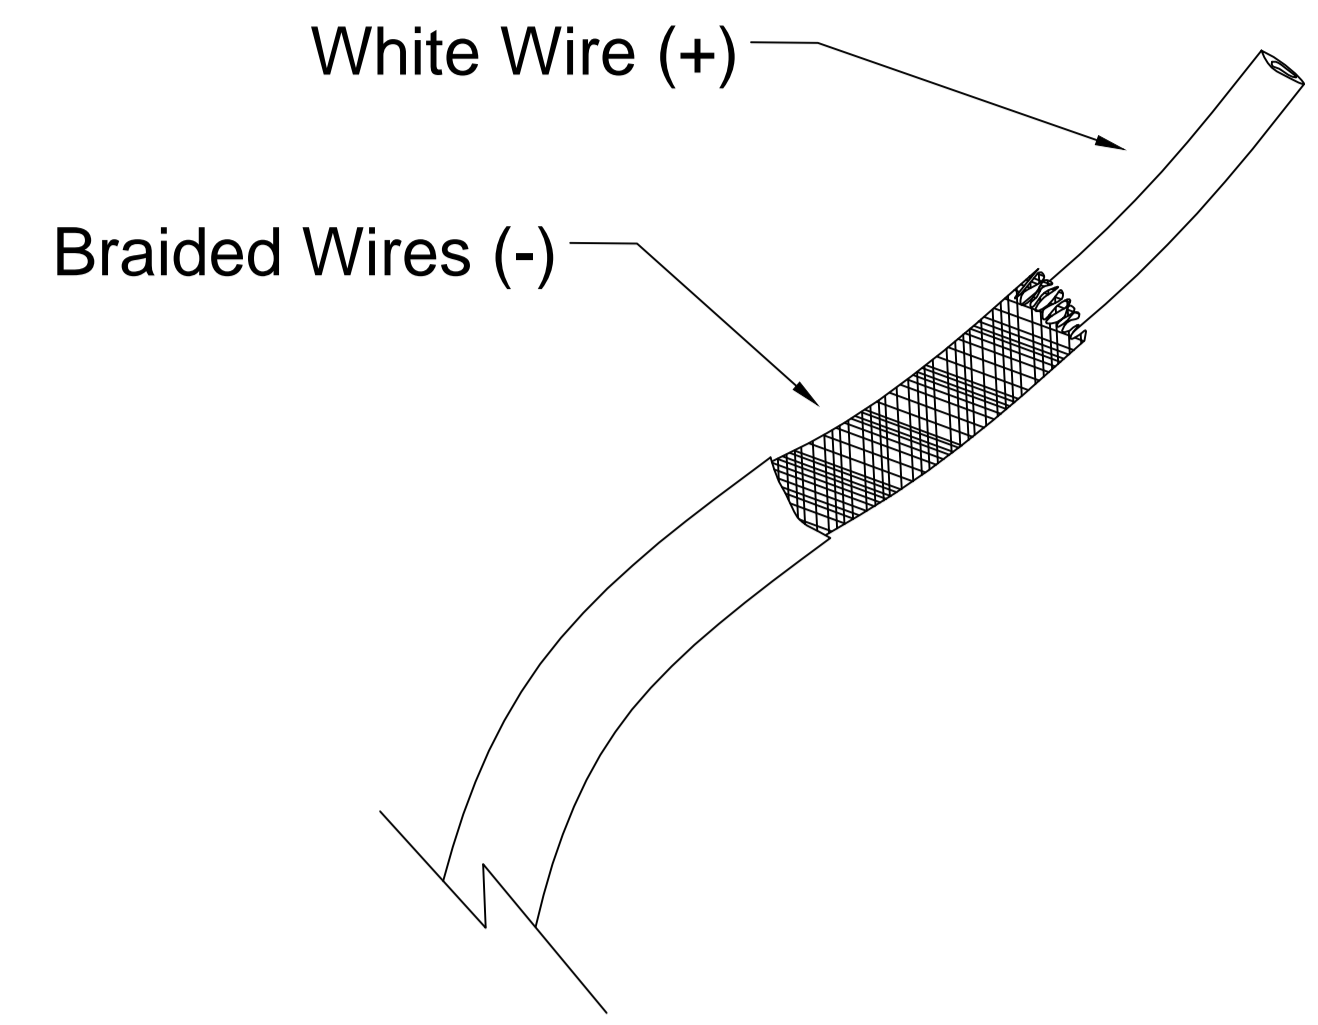

FIGURE-02
5. Strip the coaxial cable about 2", exposing 2 wires (braided wire & white wire). (See Figure-02)